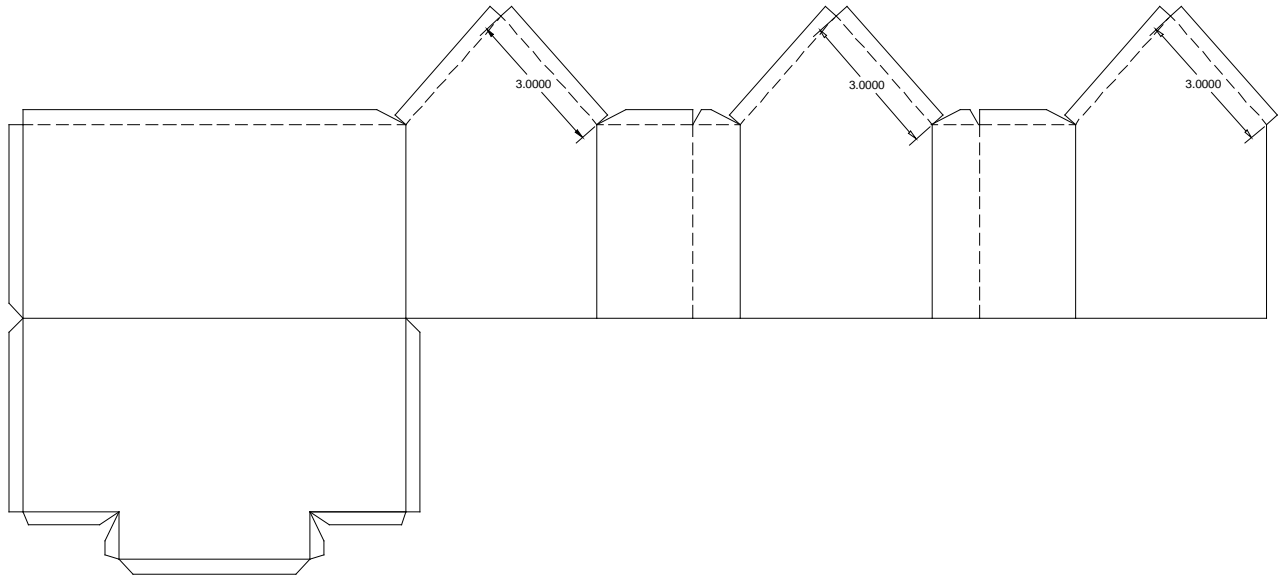

Figure 8.8
7. If you set your compass at 5 inches, you will see that an arc swept from points A and B of our drawing will produce a very high gable! A 4" arc makes the gable an equilateral triangle. 3" arcs drawn from points A and B produce a lower more manageable roof slope. This is the dimension we will use. On your poster board layout, draw in the 3 gables using a 3" compass width over the left, front, and right side panels. **Figure 8.8** illustrates the gabled walls with glue tabs included for easy assembly.